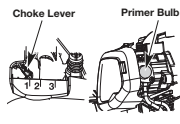

Fig. 4
3. Fully press and release the primer bulb 10 times, slowly. Some amount of fuel should be visible in the primer bulb (Fig. 4). If fuel can not be seen in the bulb, press and release the bulb until fuel is visible.
4. Place the choke lever in **Position 1** (Fig. 4).
6. Place the choke lever in **Position 2** (Fig. 4).
9. Continue squeezing the throttle control, move the choke lever to **Position 3** (Fig. 4) and continue warming the engine for an additional 60 seconds. The unit may be used during this time.
If... the engine hesitates, return the choke lever to **Position 2** (Fig. 4) and continue the warm-up.